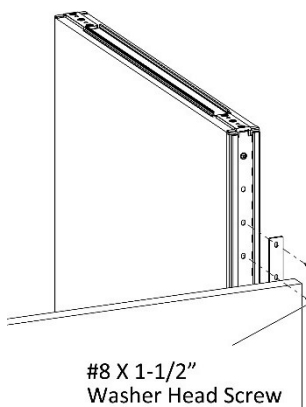

Figure 4
- Position the gallery panel with female bed fitting bracket and standard panel to create a 90-degree angle, (Figure 4).